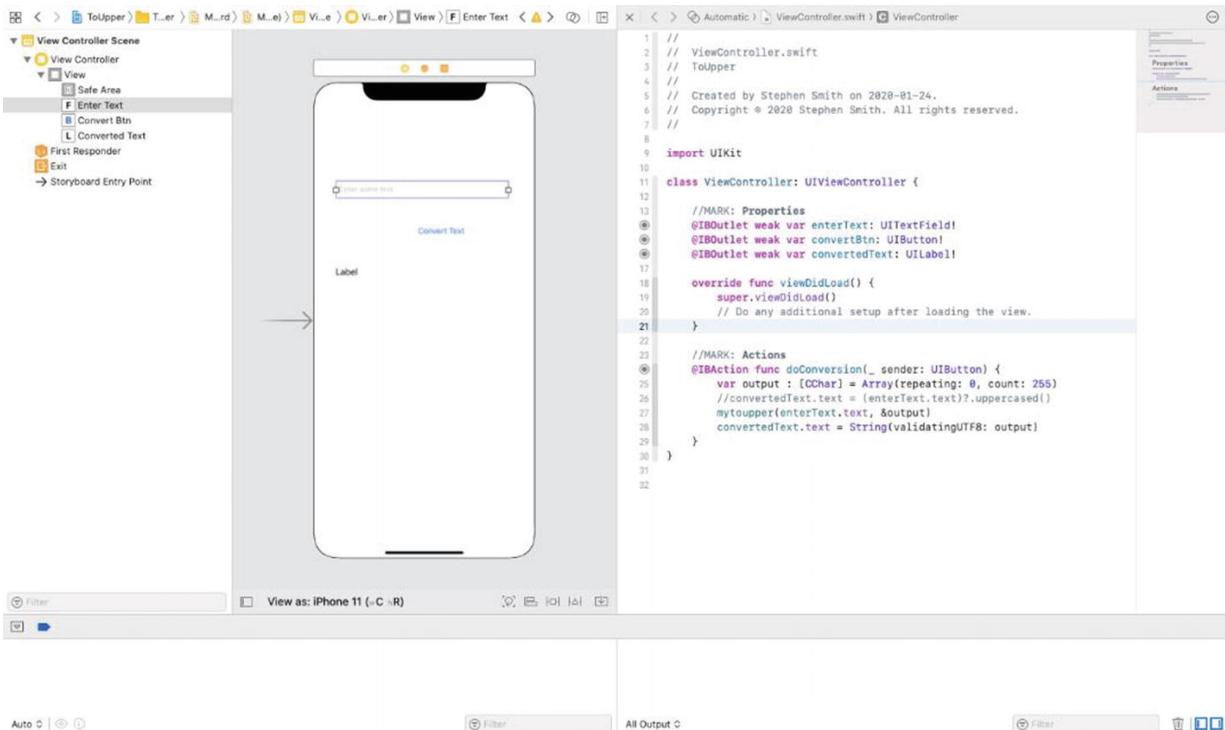

Figure 10-6 Layout and matching Swift code for the app
2. Add a Text Field, a Button, and a Label control, laying them out as indicated in Figure 10-6 (you add controls by clicking the + button in the upper right of the XCode window).